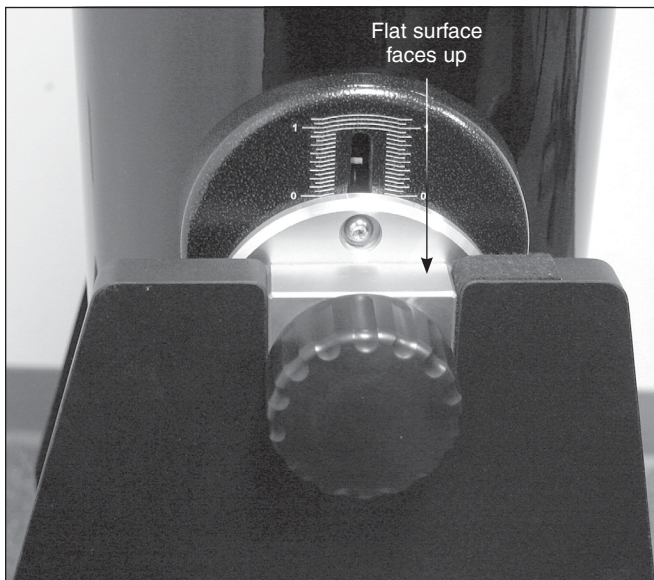

Figure 14. Lift the tube and lower the side bearings into the indentations in the side panels, as shown. They should fit snugly.
14. Lift the optical tube and place it onto the base, lowering the side bearings into the indentations at the top of the side panels. The tube should be oriented so that the focuser faces the *left* side of the base (the side with the eyepiece rack). Make sure the *rounded* surface of the aluminum side bearing seats into the side panel indentation, and the flat surface is up (**Figure 14**).